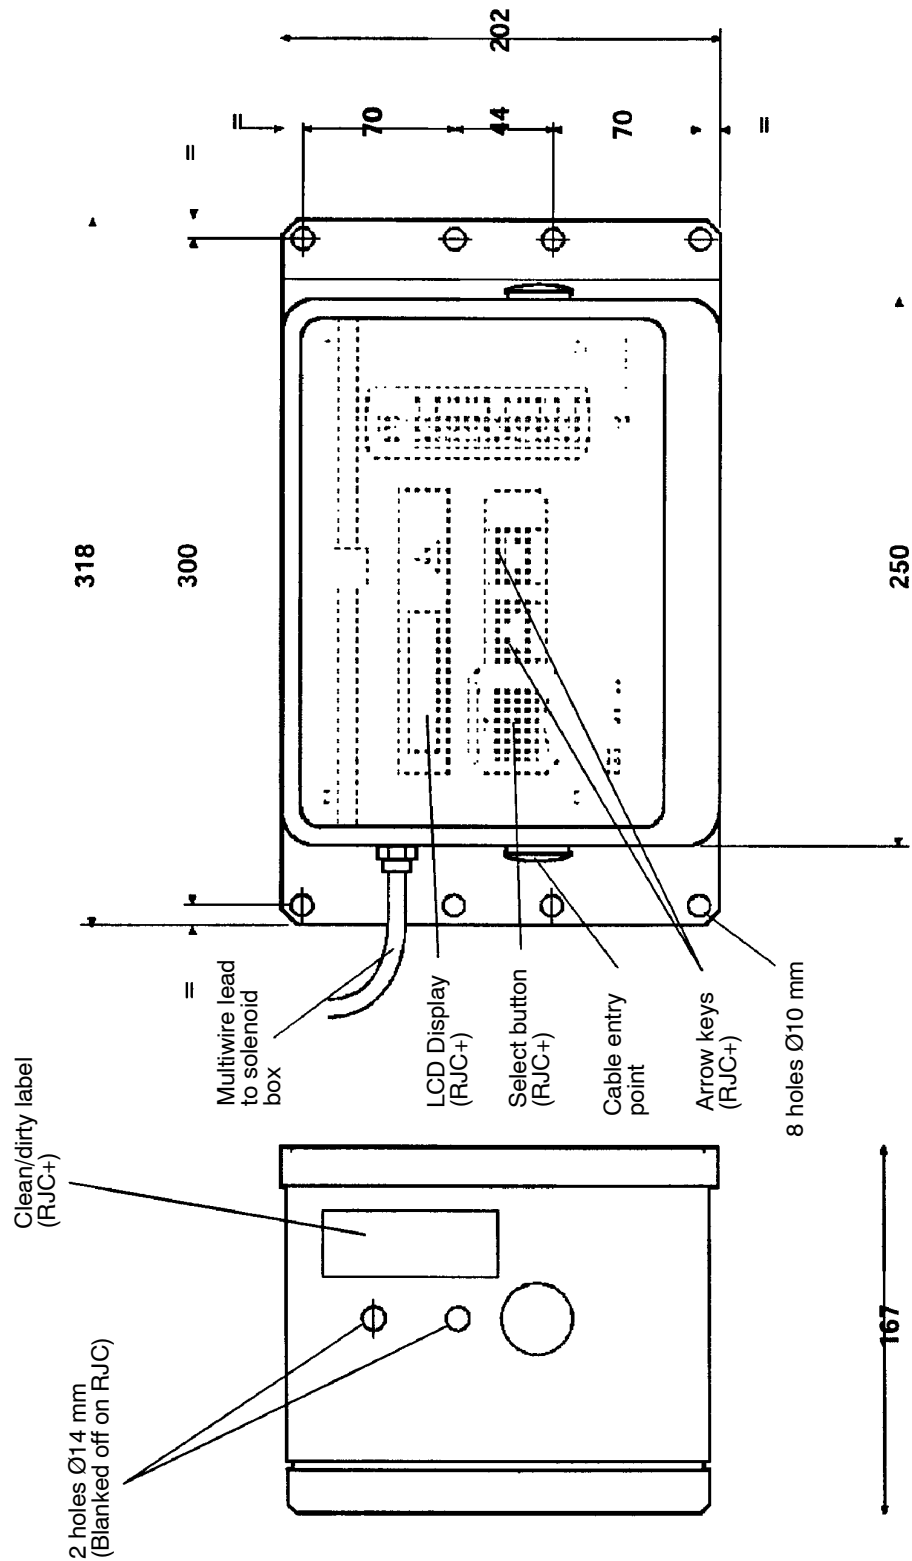

Fig. 4-13 RJC and RJC + controller – Dimensions common to all controllers
The power on LED and the LCD display will illuminate. After a period of 5 seconds the controller will be ready to set up; i.e. when the  $\Delta P$  symbol is displayed with the pressure drop reading (in mm W.G.). To set up the RJC+ controller use the green select button to scroll through the set-up options available and the arrow keys to adjust the settings (see Fig. 4-13).
10. Fit clean and dirty side label to outside of the box in the position as shown in Fig 4-13.